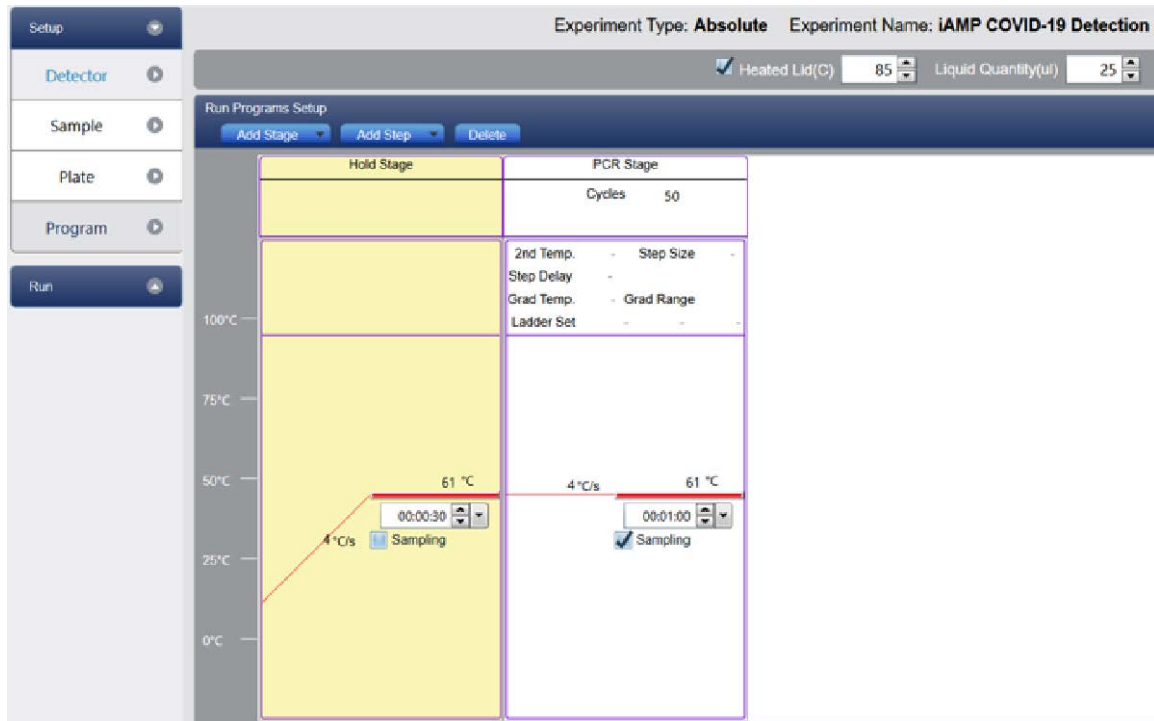

Figure 10. Program set-up using PowerGene 9600 Software.
5. Setup program according to the following Table 3 and Figure 10. Fluorescence reading is taken at the **FAM/HEX** channels at the end of each cycle using the default instrument settings of the PowerGene 9600 Plus instrument.